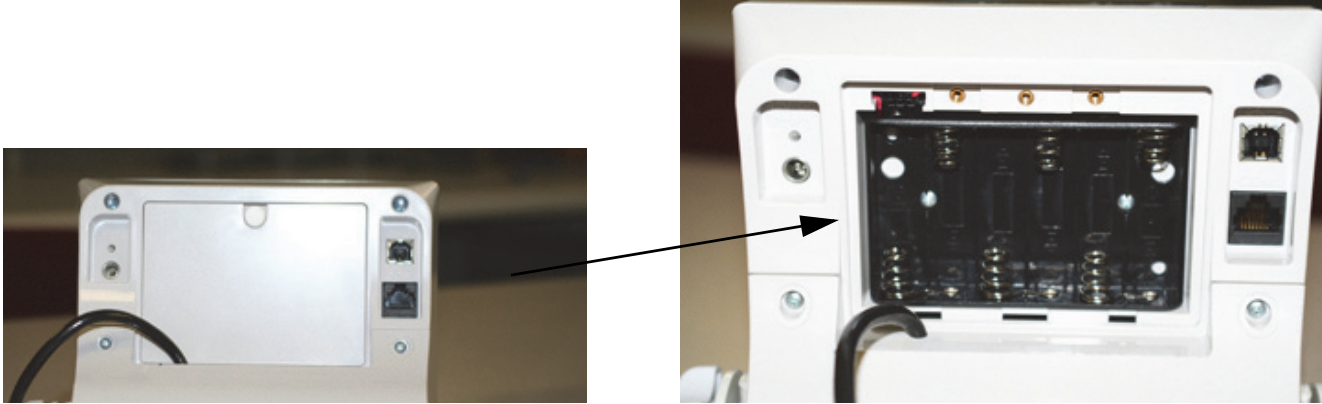

Figure 3-2. Battery Chamber
2. Insert batteries into the battery chamber as shown in Figure 3-2.